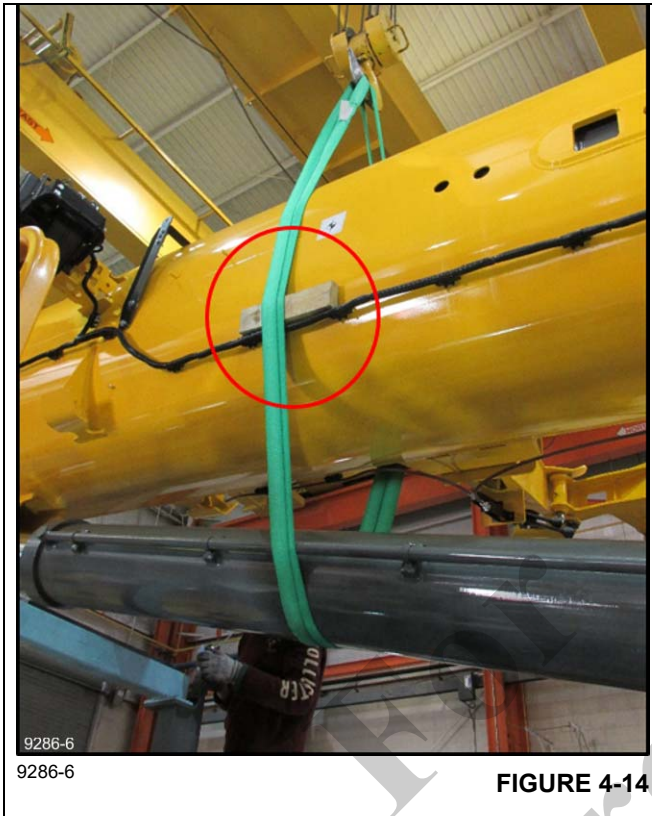

FIGURE 4-14
9. Move the rear crane hook to the front above the lift cylinder. Attach a strap under the lift cylinder and lift it (Figure 4-14).